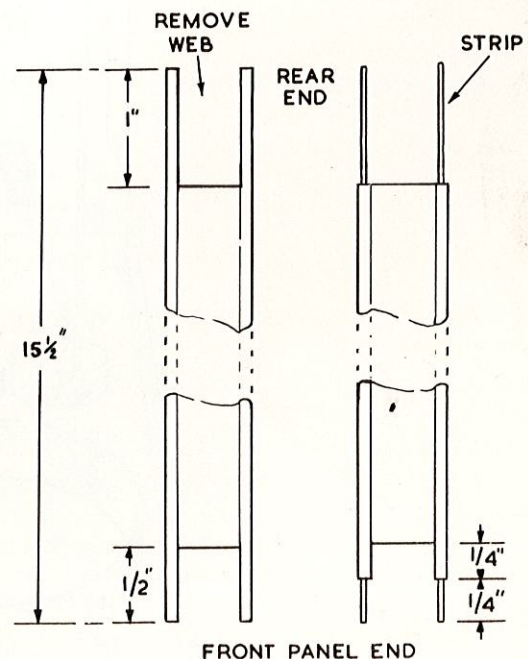

FIGURE 11
- () Prepare a length of 300 Ω transmission line as shown in Figure 11. Twist the strands of each conductor together and lightly tin.